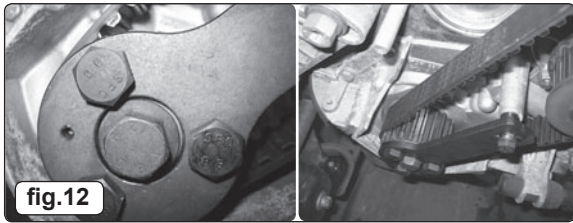

fig.12
- 3.3.12 Fit VS4951 Crankshaft Locking Tool on to the crankshaft gear. Secure Locking Tool to the crankshaft gear using the 3 bolts provided in the Kit, and secure the Tool to the engine, as shown in Fig 12.